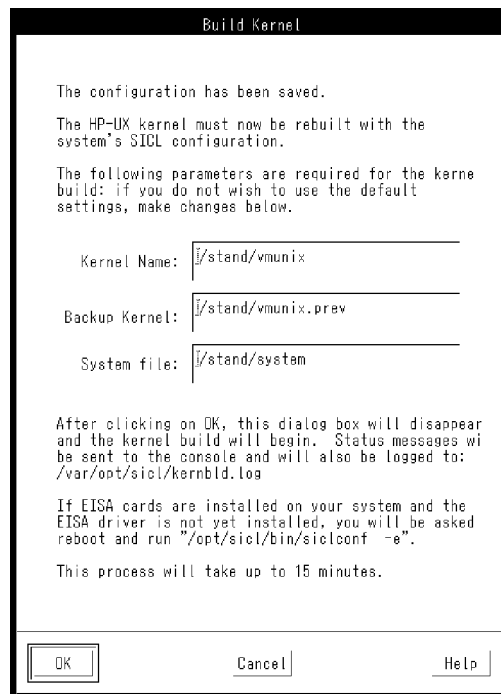

Figure 5-15. Build Kernel Window
5. Click **OK** on the accept configuration window. The accept configuration window disappears, and the build kernel window appears as shown in Figure 5-15.